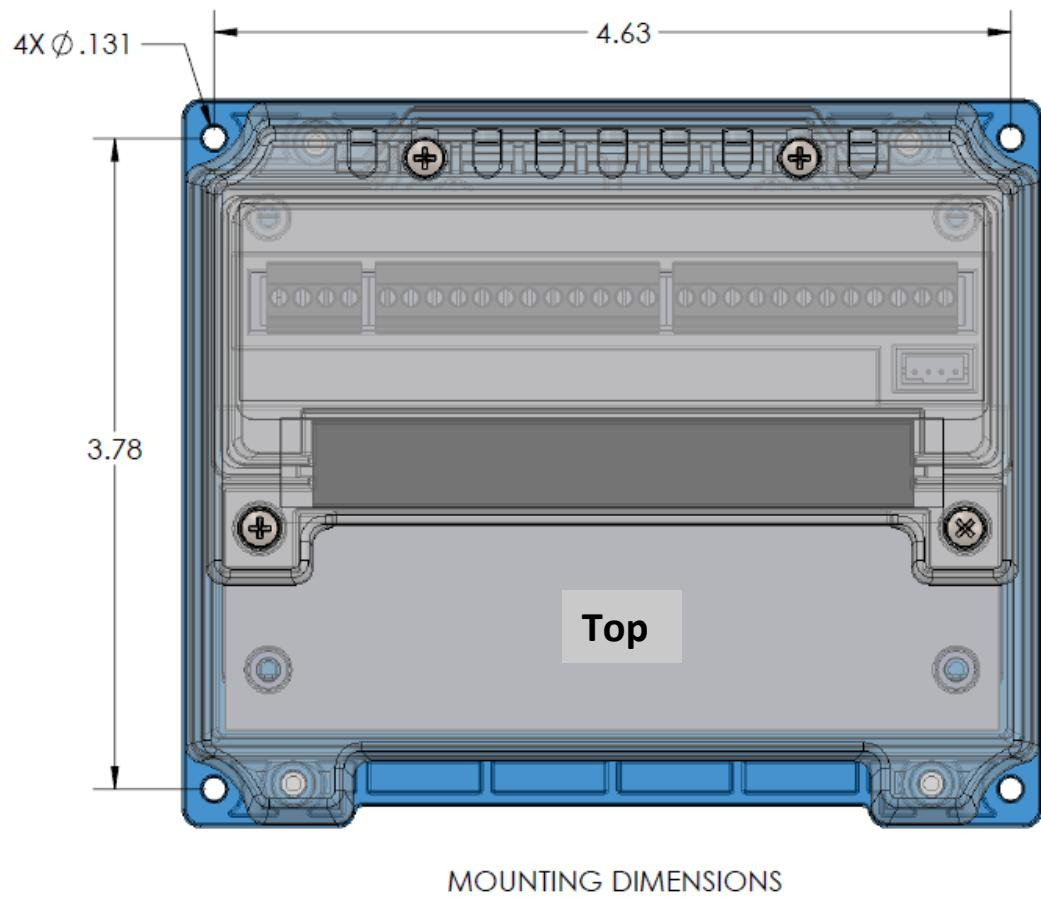

Figure 1
Mount the transponder in a vertical orientation where possible. If installing within a weather-resistant enclosure or pedestal, the transponder may be mounted horizontally. Use the (4) mounting holes in the base plate to fasten (fig. 1).